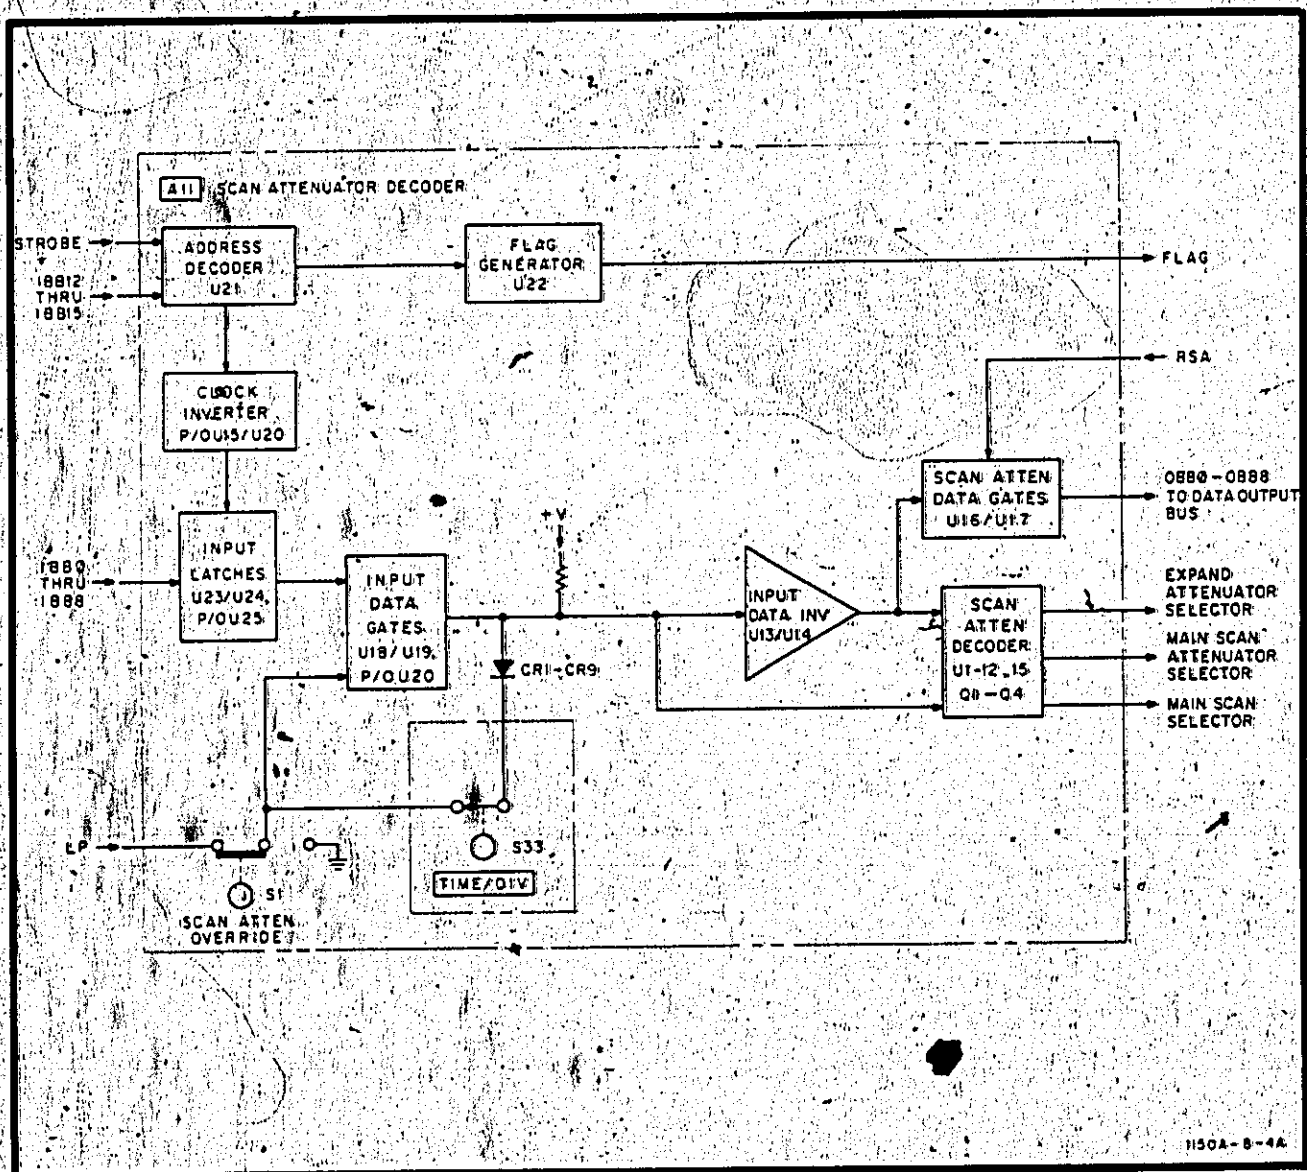

Figure 4-17. Detailed Block Diagram, Assembly A11
**4-59. SCAN ATTENUATOR DECODER ASSEMBLY A11. (See figure 4-17.)**